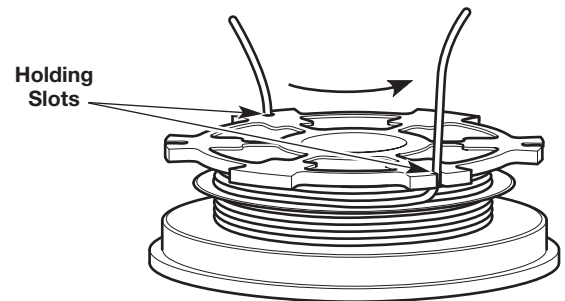

Fig. 21
3. Insert the two 6-inch ends into the two .095 holding slots (Fig. 21).
4. Insert the two 6-inch ends into the two .095 holding slots (Fig. 21).